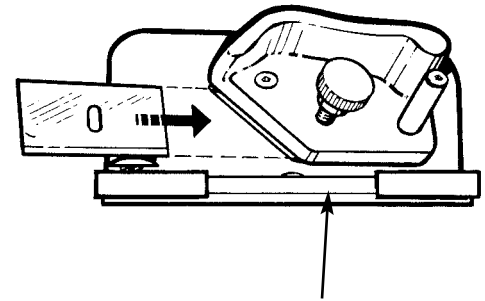

Fig 2
1. To install the Mat Guide loosen each knob three full turns. Hold the mat guide at either end and with your thumbs put some downward pressure on the knobs. Evenly drop the Mat Guide into the parallel board slots and tighten the knobs. **Fig. 2**
Loosen the Retaining Screw found on the back side of the Cutting Head until flush with the surface of the base. This allows the Blade Holder to tilt back all the way for blade change. Slide one #270 blade all the way in the back of the Blade Holder as shown. **Fig. 2**